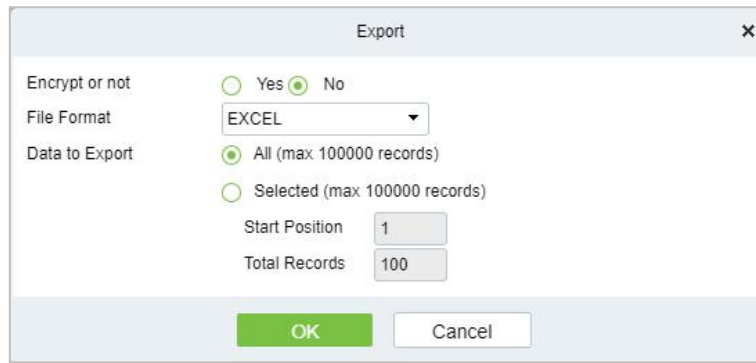

Figure 12-48 Report Export Interface
Step 3: In the access record interface, click **Export**, enter the user password in the pop-up security verification, and click **OK**. Select whether to encrypt and export the file format, and Click **OK**, as shown in Figure 12-48.